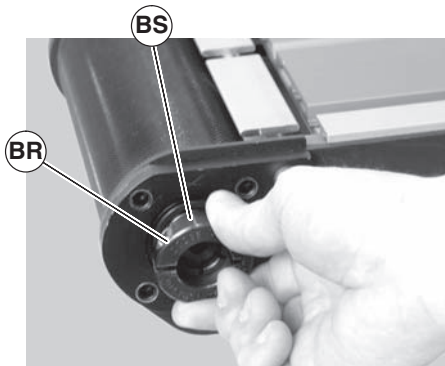
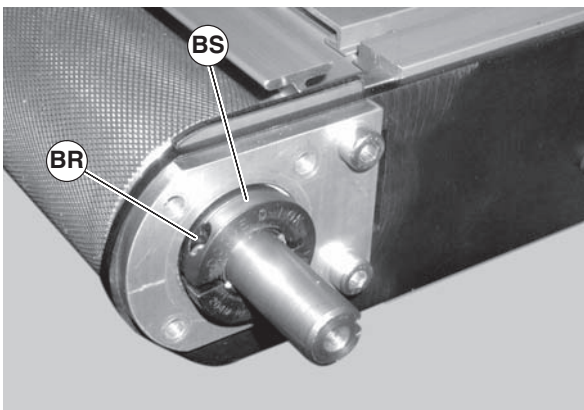

Figure 50
Figure 51
5. Loosen the bearing collar set screw (Figure 50, item BR) and remove bearing collar (BS). Repeat on drive shaft side of pulley (Figure 51, item BR and BS).. / mn